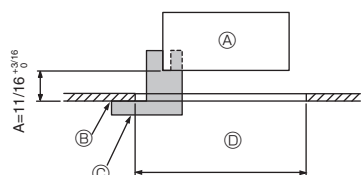
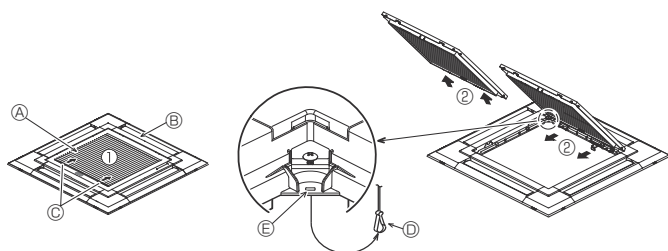
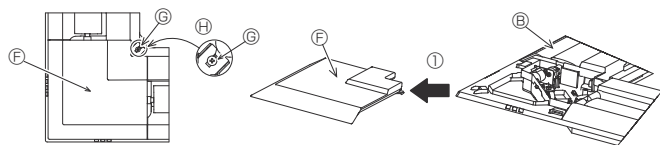

Fig. 2
Fig. 3
Fig. 4
①	Grille	1	950 × 950 (mm), 37-3/8 × 37-3/8 (inch)
②	Installation gauge	1	(Divided into 4 parts)
③	Screw (4 × 16)	1	For PLP-40EAU, PLP-40EAEU
2. Preparing to attach the grille (Fig. 2)
- With the gauge ② supplied with this kit, adjust and check the positioning of the main unit relative to the ceiling surface. If the main unit is not properly positioned relative to the ceiling surface, it may allow air leaks or cause condensation to collect.
- Ⓒ Installation gauge ② (inserted into the main unit)
2.1. Removing the intake grille (Fig. 3)
- Slide the levers in the direction indicated by the arrows ① to open the intake grille.
- With the intake grille in the "open" position, remove the hinge of the intake grille from the grille as indicated by the arrows ②.
2.2. Removing the corner panel (Fig. 4)
- Loose the 4 screws on the corner. Slide the corner panel in the direction of the arrow ① in the figure and remove the corner panel.
[Fig. 3] [Fig. 4]